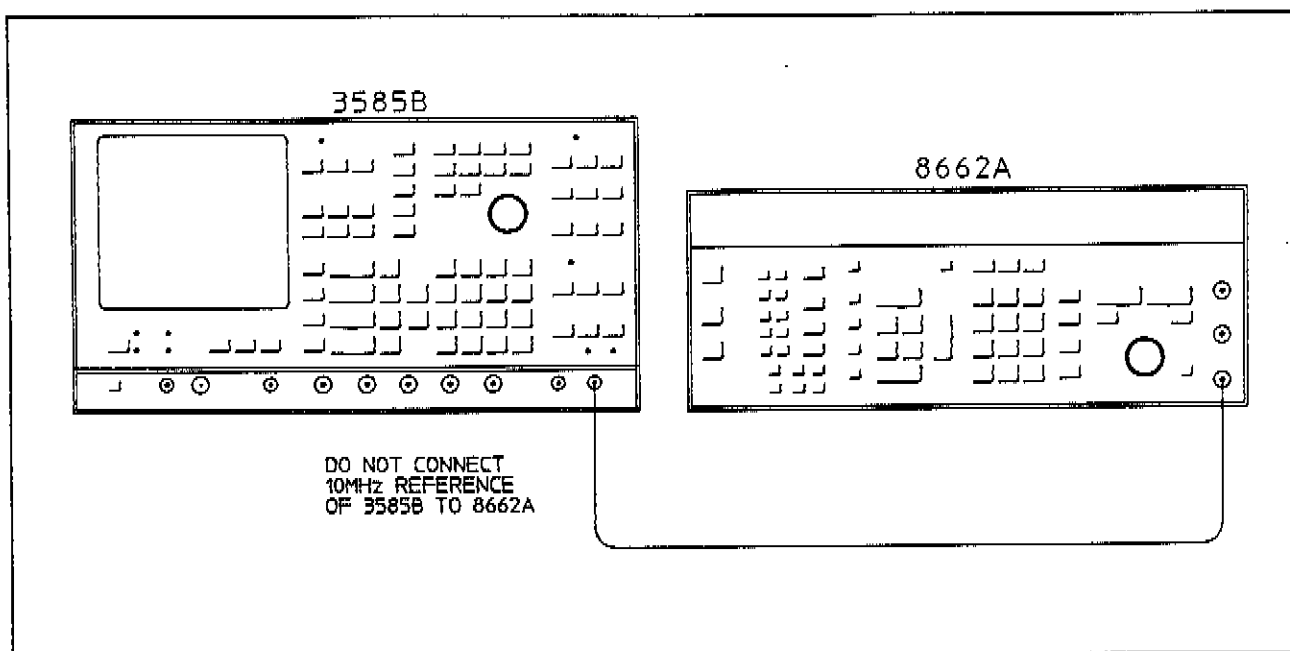

Figure 4-1.
- a. Connect the 8662A RF output to the 3585B's 50Ω input. See Figure 4-1.